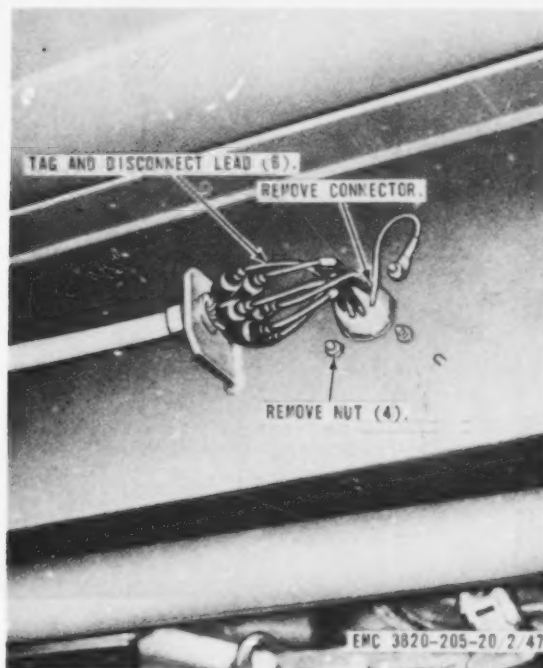

Figure 51. Electrical connector, removal and installation.
a. *Removal.* Remove the connector from the dolly as instructed on figure 51.
c. *Installation.* Install the connector on the dolly in reverse of the instructions on figure 51.